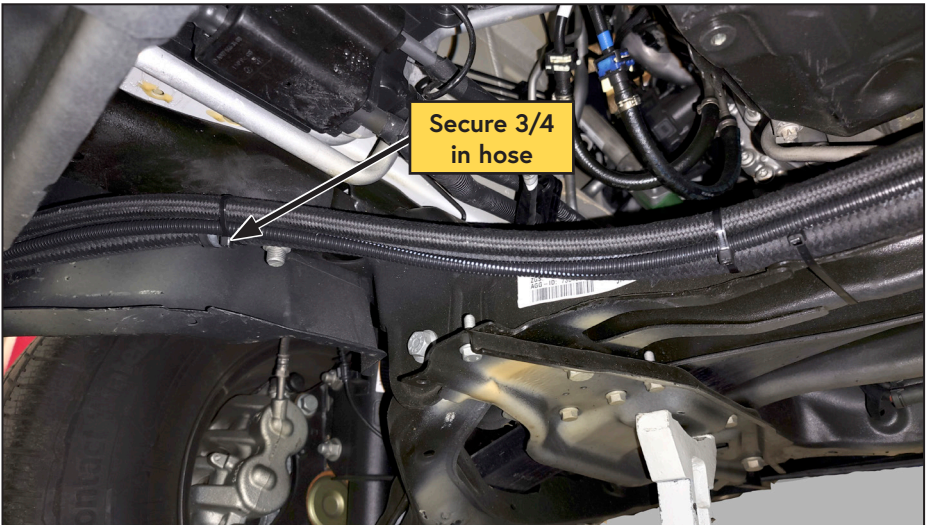
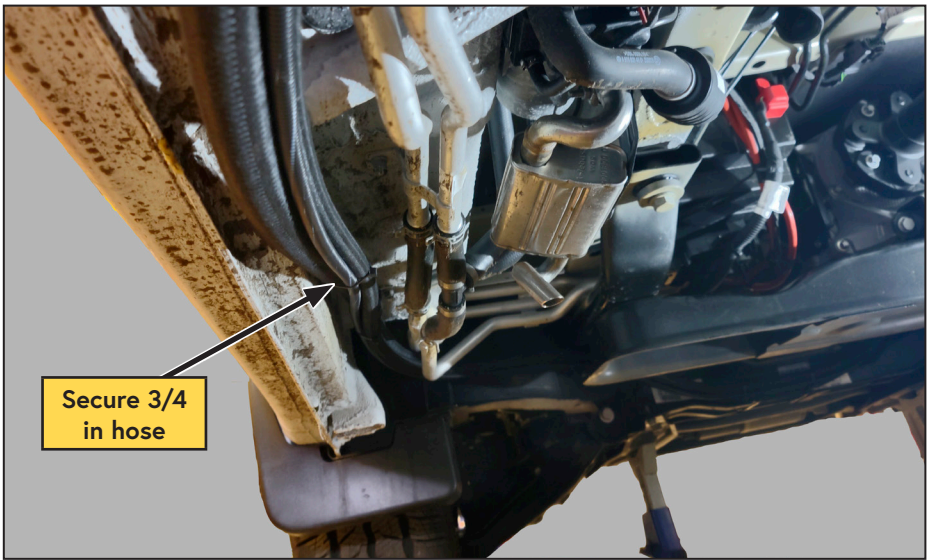
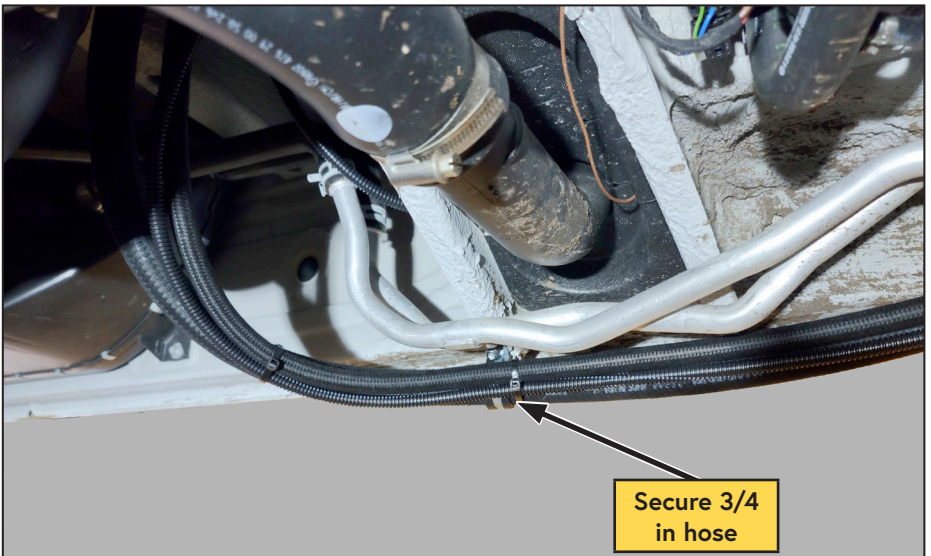

Figure 35 — Route hoses
Figure 36 — Route hoses
Figure 37 — Route hoses
- Route the hoses along the base of the frame/body, and up to the bulkhead fittings installed earlier (Figure 35, Figure 36, and Figure 37).
- Using the supplied P-clips and fasteners, secure the 3/4 in hose to the 6 mm studs on the body (Figure 35, Figure 36, and Figure 37).